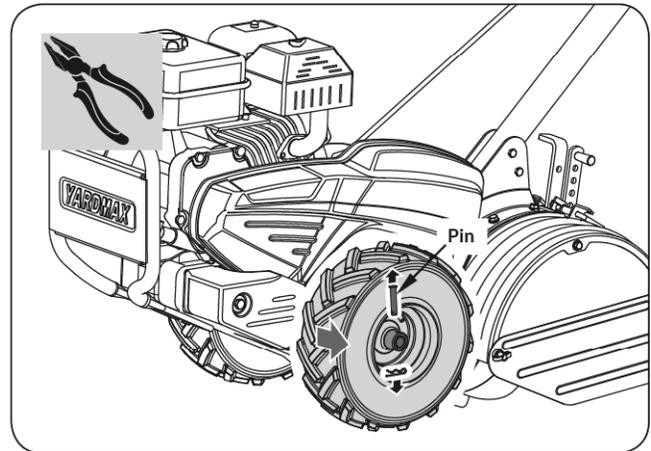

Figure 11a
1. Securely prop the machine up so that the wheel on the opposite side of the engine is 1 inch off the work surface. Remove the shear pin and wheel from belt guard side of the machine, opposite side of the engine. (see **Figure 11a**)